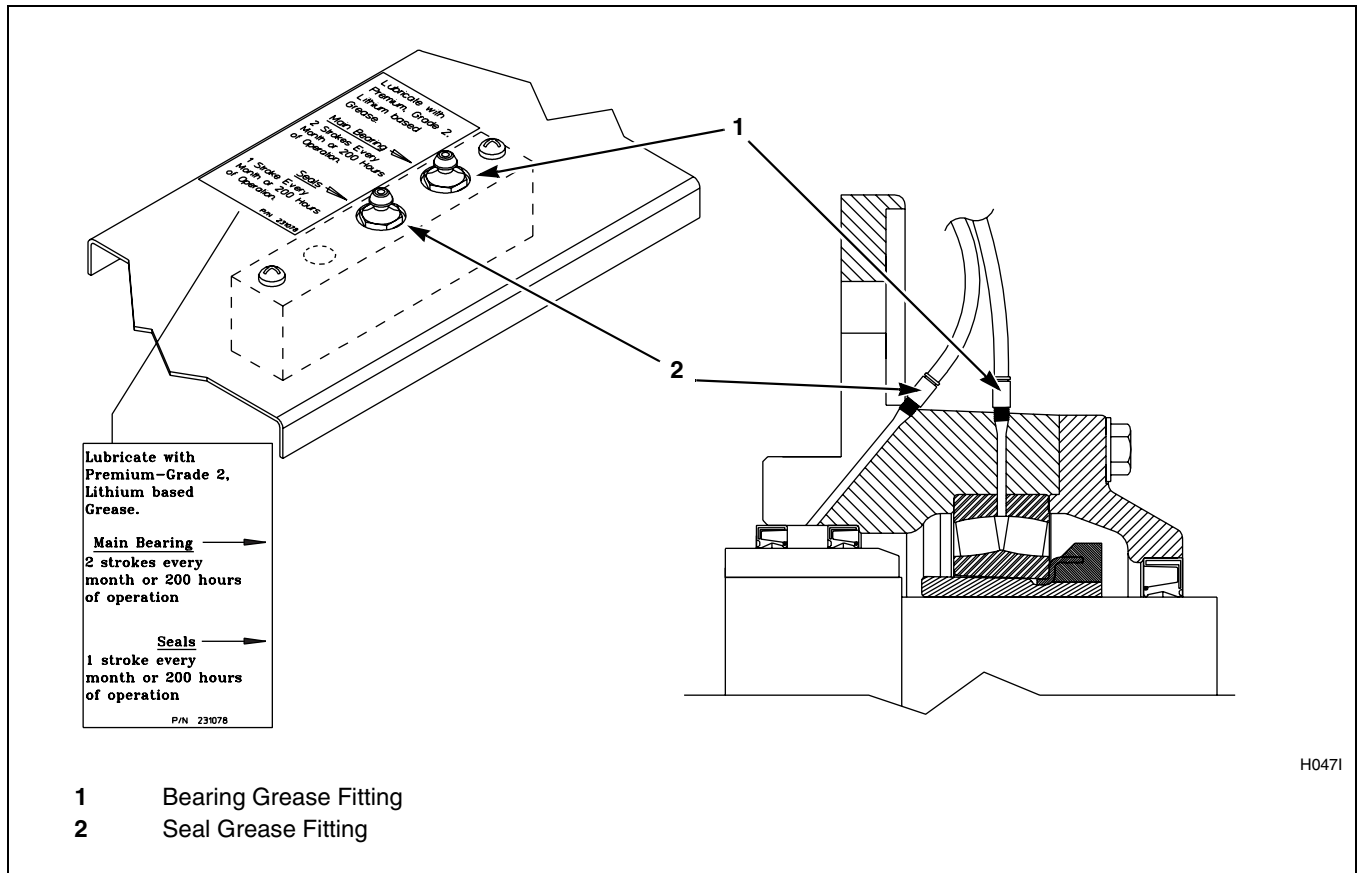

Figure 11
2. **For 80 pound capacity models only**, lubricate bearings and seals each month OR after every 200 hours of operation. Refer to *Figure 11*.